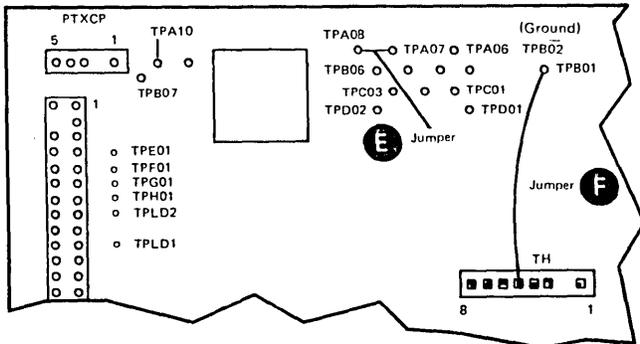

Figure F-27. Solenoid and Bail Service Check
F.3.3.1 Solenoid and Bail Service Check (Figure F-27)